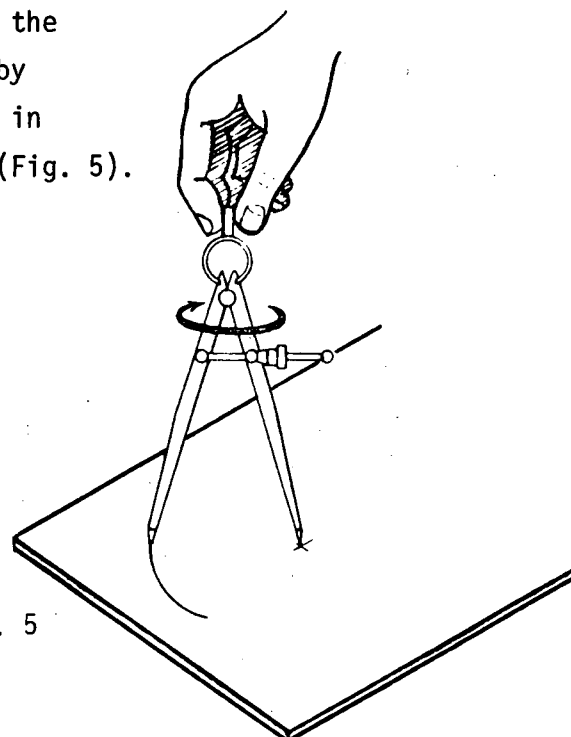

Fig. 5
- b) Place one leg of the dividers on the point marked as the centre. Draw the arc by rotating the other leg in a clockwise direction (Fig. 5).